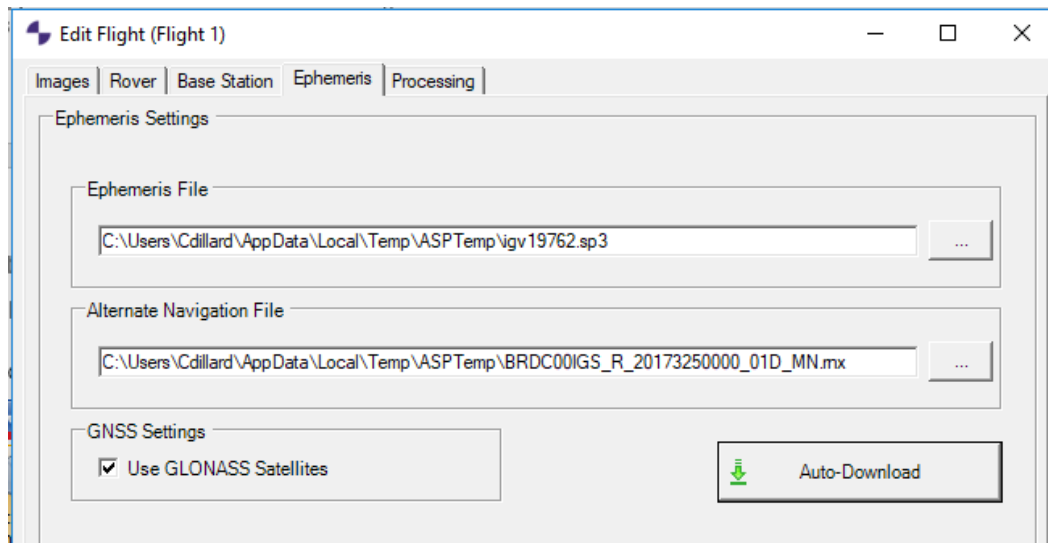

Figure 32 – Ephemeris Tab
7. Next click the Ephemeris tab (Figure 32). If you wish to process using GLONASS satellites, check the box next to *Use GLONASS Satellites* and then click Auto-Download. If you wish to process using GPS only, uncheck the box and click Auto-Download.